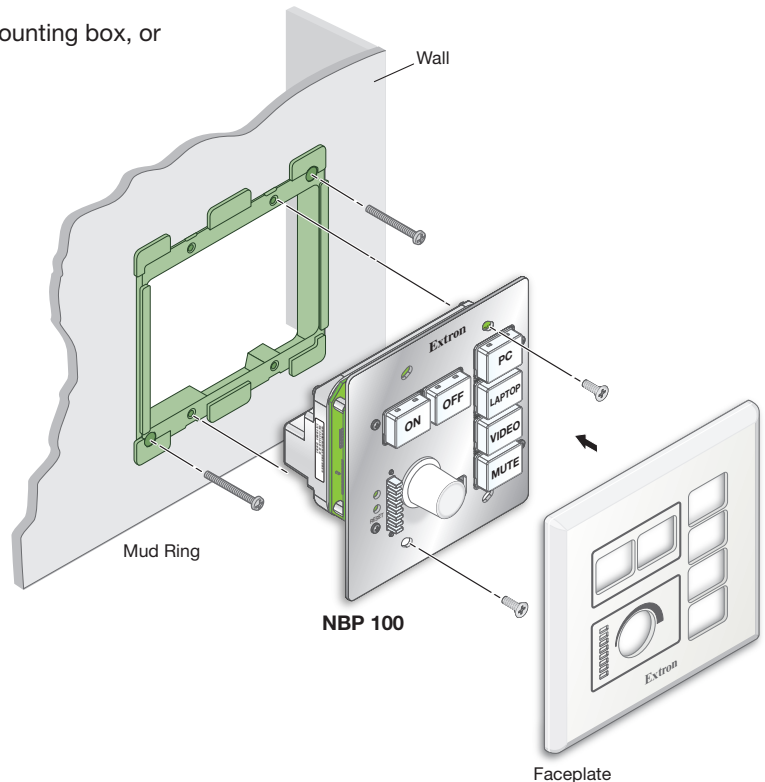

Figure 6. Installing the NBP in a Mud Ring
2. Secure the NBP to the junction box, wall or surface mounting box, or mud ring as follows (see figures 6 and 7):
3. Attach the wallplate to the NBP: align the faceplate openings with the buttons, knob, and LEDs, and place the faceplate against the unit (see figures 6 and 7). The magnetic catches fasten the faceplate onto the front of the unit.